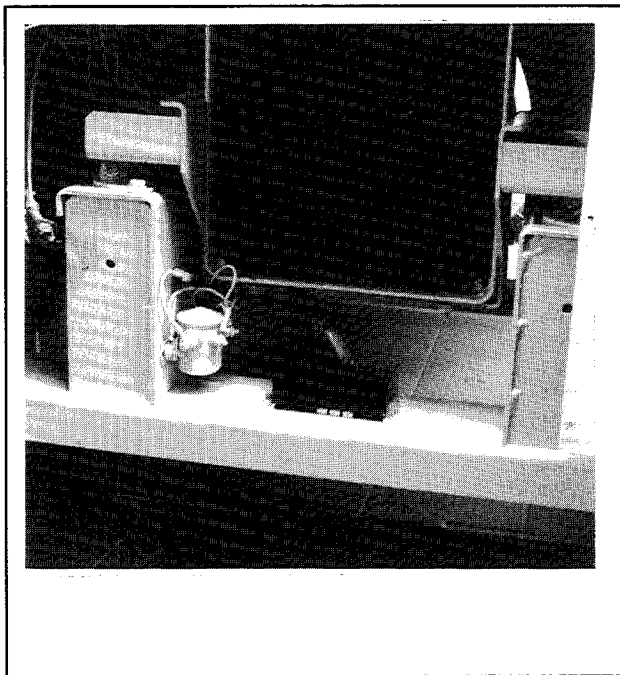

Figure 8-2. Voltage Regulator
3. Removal of the junction box panel will access the voltage regulator. See Figure 8-2.